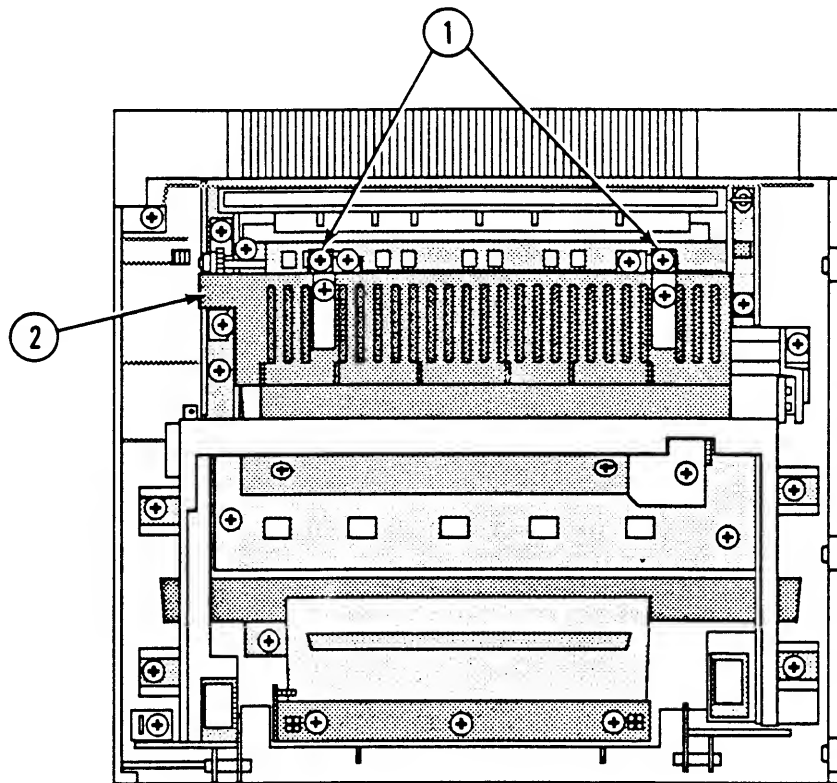

FIGURE 70
2. Remove the two Phillips screws (Figure 70, #1) that secure the heater cover (Figure 70, #2) to the top cover.